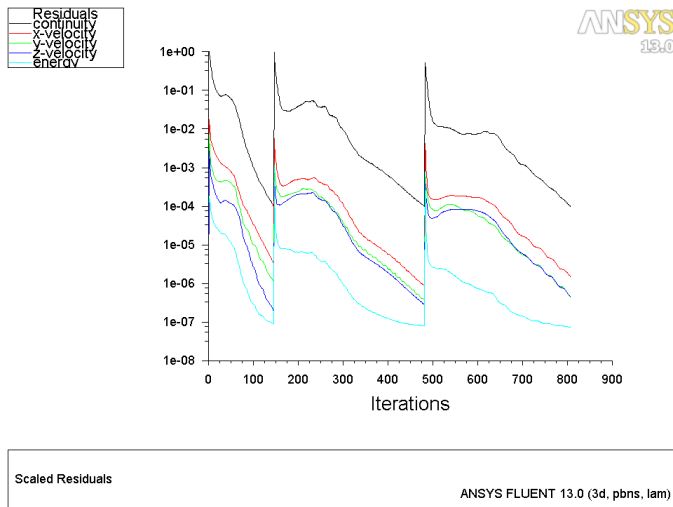

Figure 23: Residual Plot After Second Mesh Adaption
- Figures 23 and 24 show the residual plot and convergence history of temperature at the monitor point respectively.